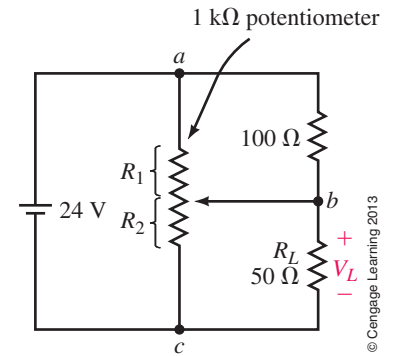

FIGURE 7-70
29. If the potentiometer of Figure 7-70 is adjusted so that $R_2 = 200\ \Omega$, determine the voltages V_{ab} and V_{bc} .
30. Calculate the values of R_1 and R_2 required in the potentiometer of Figure 7-70 if the voltage V_L across the $50\text{-}\Omega$ load resistor is to be 6.0 V .